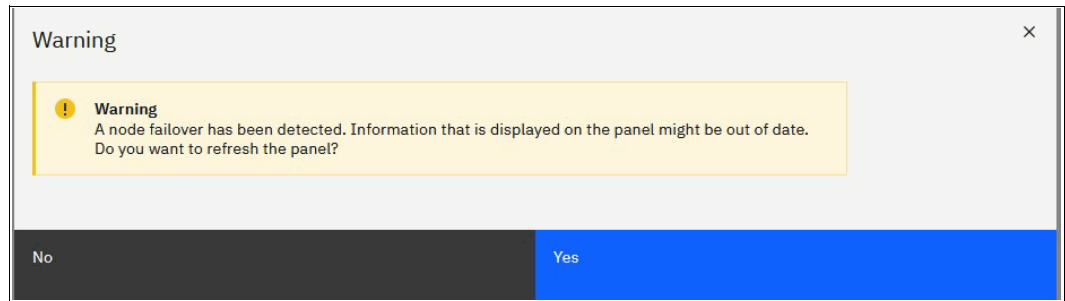

Figure 13-24 Node failover
9. After a 30-minute pause, a node failover occurs and you temporarily lose connection to the GUI to ensure that multipathing recovered on all attached hosts. A warning window opens and prompts you to refresh the current session, as shown in Figure 13-24.